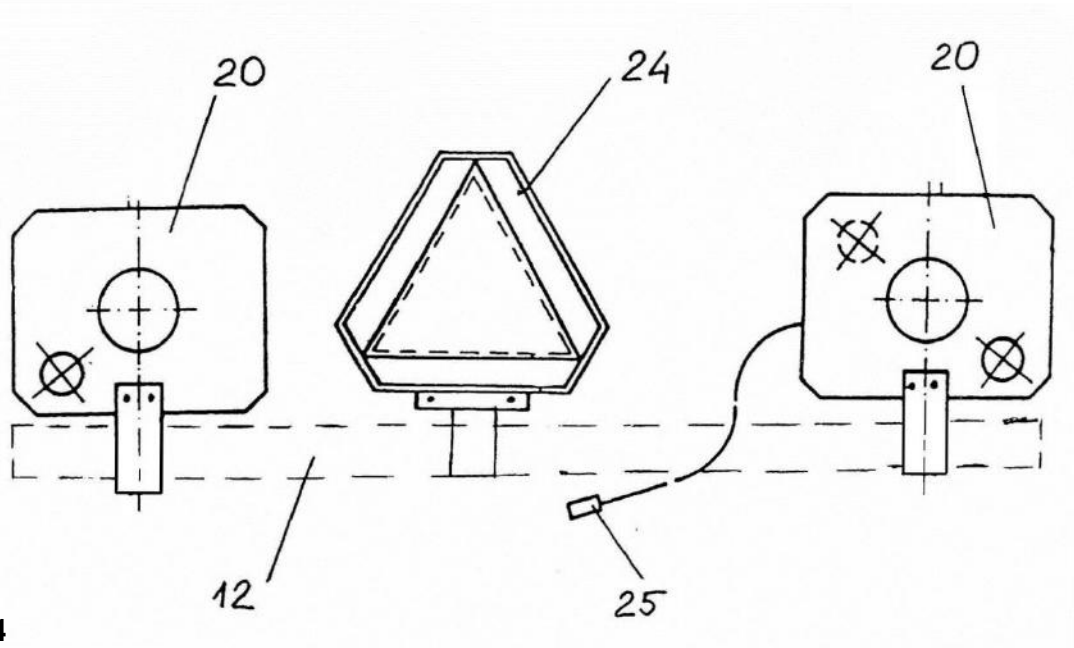

Fig. 14
Install the mobile light and warning devices 20 and triangular emblem 24 as shown on figure 14.
6. Install the triangle emblem 24 and the mobile light and warning device 20 as shown on figure 14, and check the lights operation.